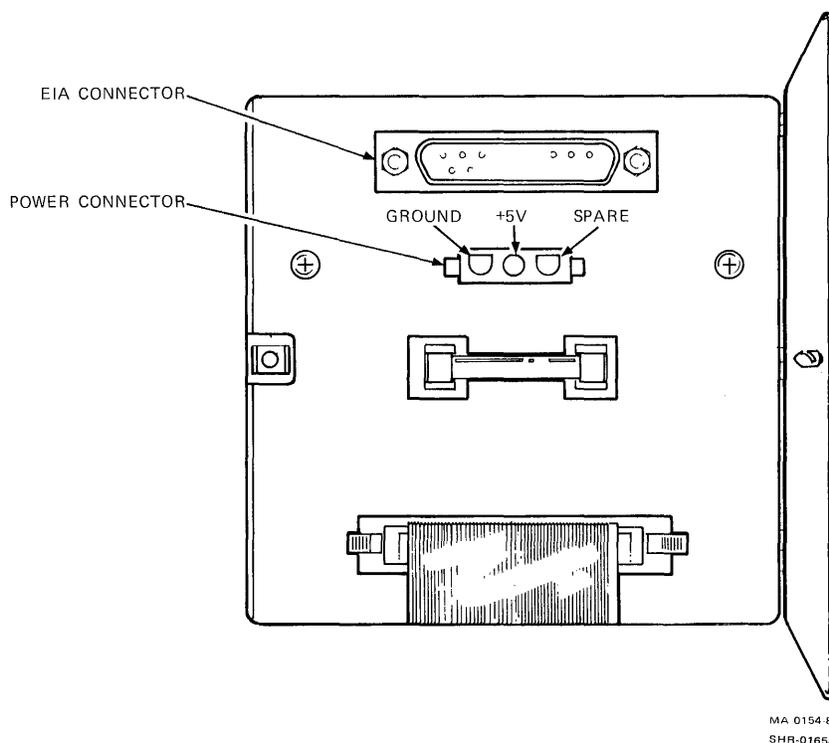

Figure 2-25 TA78 Maintenance Port
3. Plug an RS232-compatible, external terminal -- a handheld terminal (HHT) for example -- into the EIA connector on the TS78 control panel (Figure 2-25). For terminals that require +5 V power, +5 V (at 1 A maximum) is available at a 3-pin Mate-N-Lok connector on the panel.